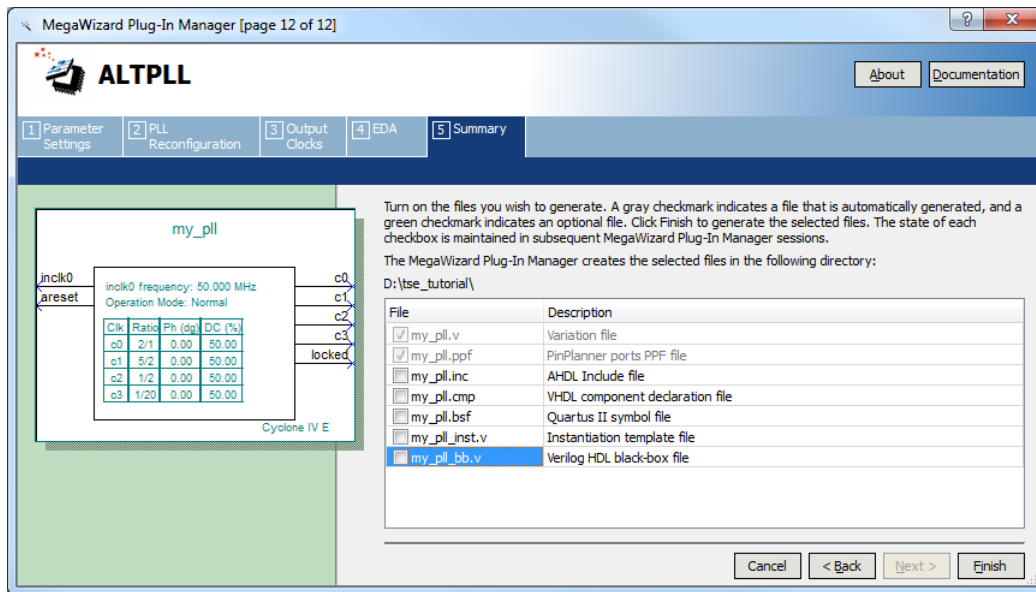

Figure 16. Settings for Summary tab.
8. Under the **Summary** tab, uncheck **my\_pll\_bb.v** as shown in Figure 16, and then click **Finish** to generate the files.